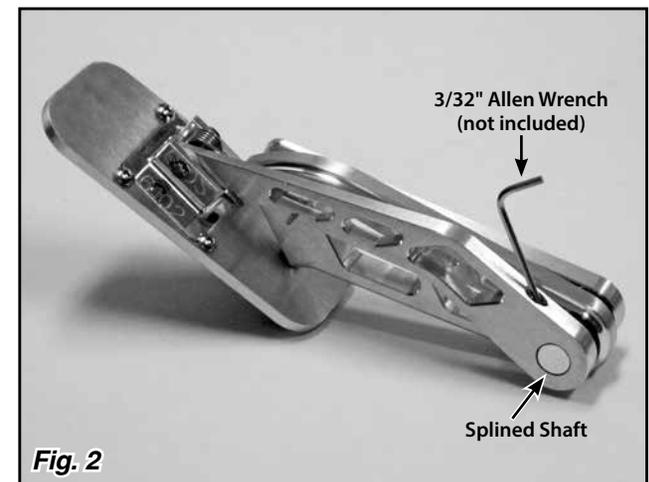

Fig. 2
Step 2: Loosen the #10-24 x 1/4" set screw in the lower pedal arm using a 3/32" Allen wrench (**Fig. 2**), and slide the lower arm off of the splined shaft that is part of the upper arm.